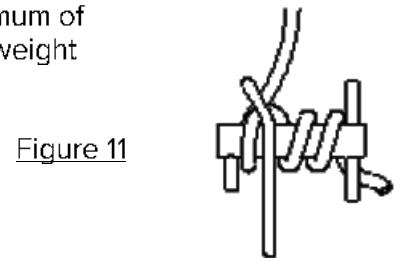

Figure 11
- Wrap the rope around the "long leg" of the Port-A-Wrap using a minimum of 1½ wraps. The number of additional wraps will be determined by the weight of the piece being lowered (3 wraps shown in Figure 11).